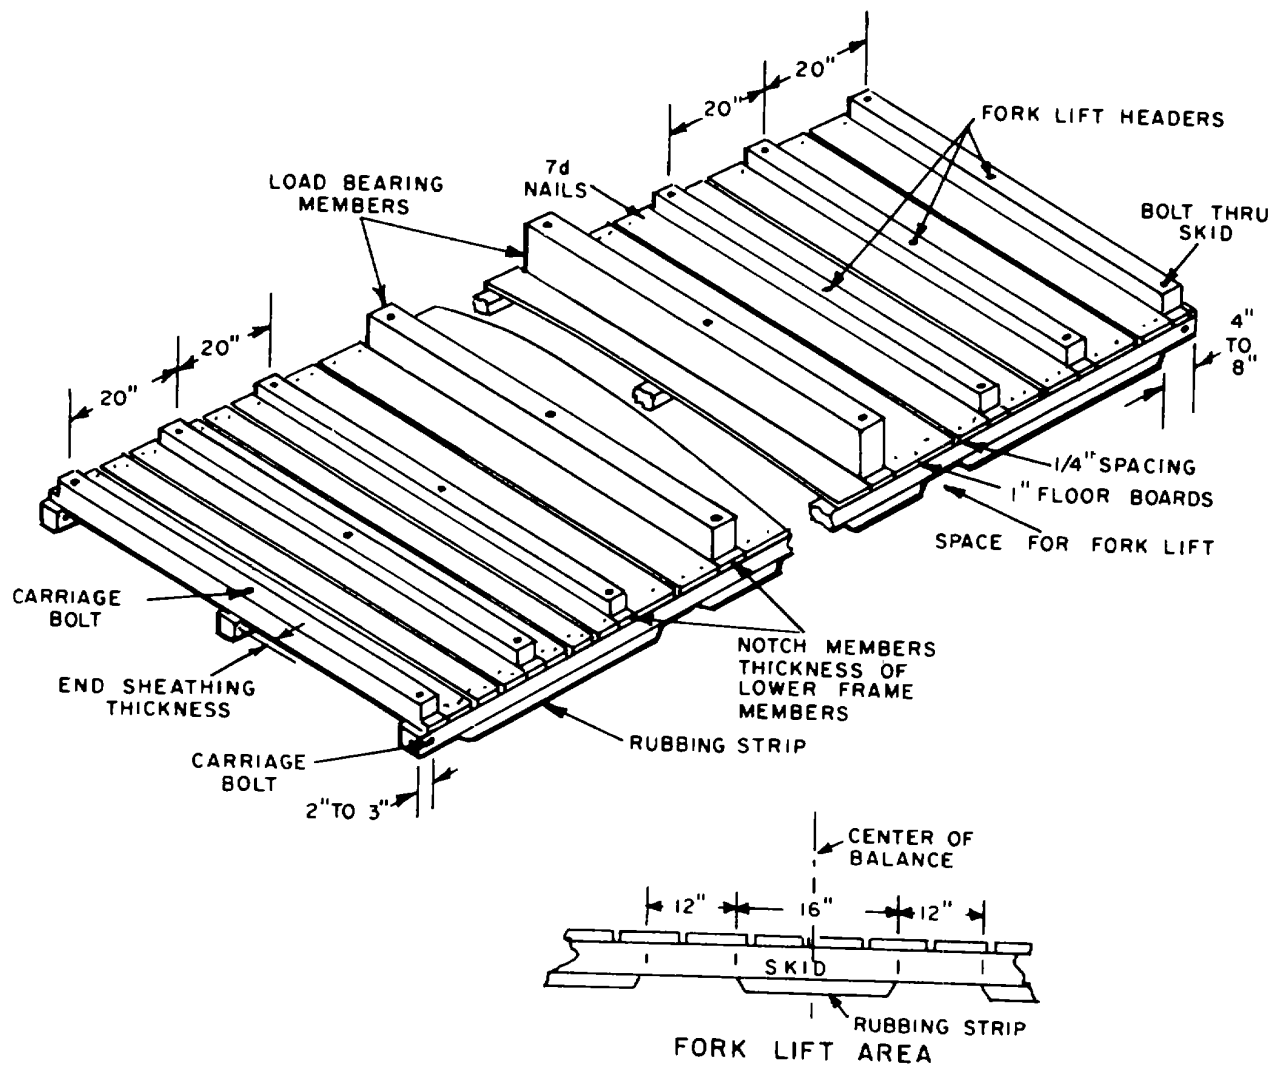
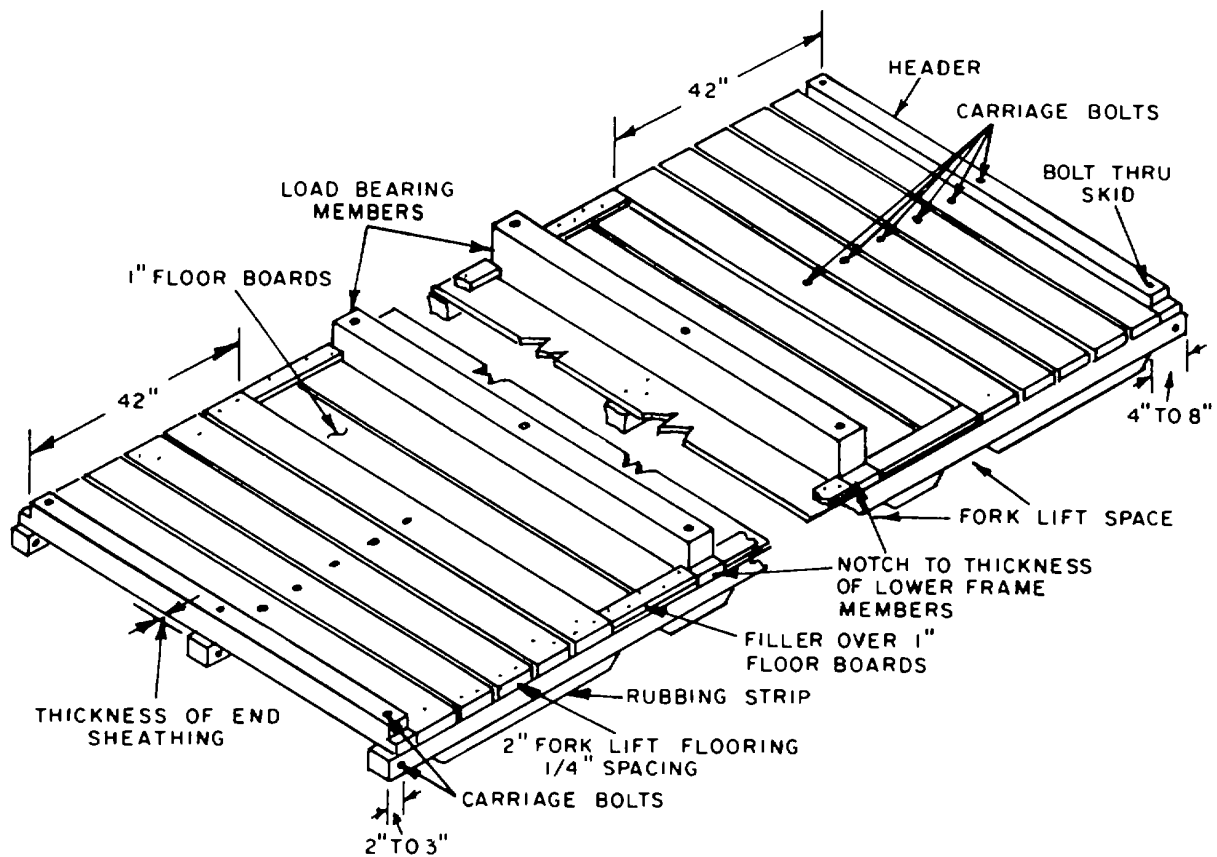

Figure D-3-1. Skid-Type Base (Forklift Headers).
Figure D-3-2. Skid-Type Base (2-inch Forklift Flooring).
b. Skid Base. The base consists of longitudinal skids and rubbing strips, headers, load-bearing floorboards, and flooring. For net loads up to 10,000 pounds and crate length up to 32 feet, use 4- by 4-inch skids. For net loads up to 30,000 pounds and crate length up to 20 feet, use 4- by 6-inch skids (on edge). Maximum space between skids is 48 inches, center to center. Use 2-inch lumber the same width as skids for the rubbing strips. Attach strips to skids with two staggered rows of 12d nails spaced 12 inches apart in each row. Provide 12-inch openings in the rubbing strips, 28 inches center to center, for forklift access. Place center pieces to straddle the center of balance. Center pieces must be at least 18 inches long (fig. D-3-1). Provide sling openings not less than 4 inches in length (preferably 8 inches) at the ends of the rubbing strips. Bevel ends of all rubbing strips at a 45° angle. Bolt a 4- by 4-inch header to each end of the base, placed back from the ends of the skids to the thickness of the end sheathing. Notch the ends of the headers to equal the thickness of the lower frame members of the crate sides. Bolt two additional 4- by 4-inch forklift headers, spaced 20 and 40 inches (on center) from each end of the skids, and notch the same as the end headers (fig. D-3-1). Use bolts 1/2 inch in diameter for all headers. When the crate is short or narrow, or when the form of the item to be crated dictates, 2- by 6-inch lumber will be used in the 42-inch end areas instead of 4- by 4-inch forklift headers. When 2-inch lumber is used and intermediate skids are required, bolt the 2-inch members to the intermediate skids and nail to the outside skids with 12d nails (fig. D-3-2). Place load-bearing members (4- by 4-inch minimum) where concentrated loads of contents occur. Notch and bolt as prescribed for headers, except secure to each skid with two bolts when member is over 4 inches wide. Lumber used for floorboards will be at least 1 by 4 inches and will be spaced 1/4-inch apart for drainage. When 1-inch flooring is used with 2-inch flooring, nail 1- by 2-inch filler strips along each side of the thinner flooring (fig. D-3-2).